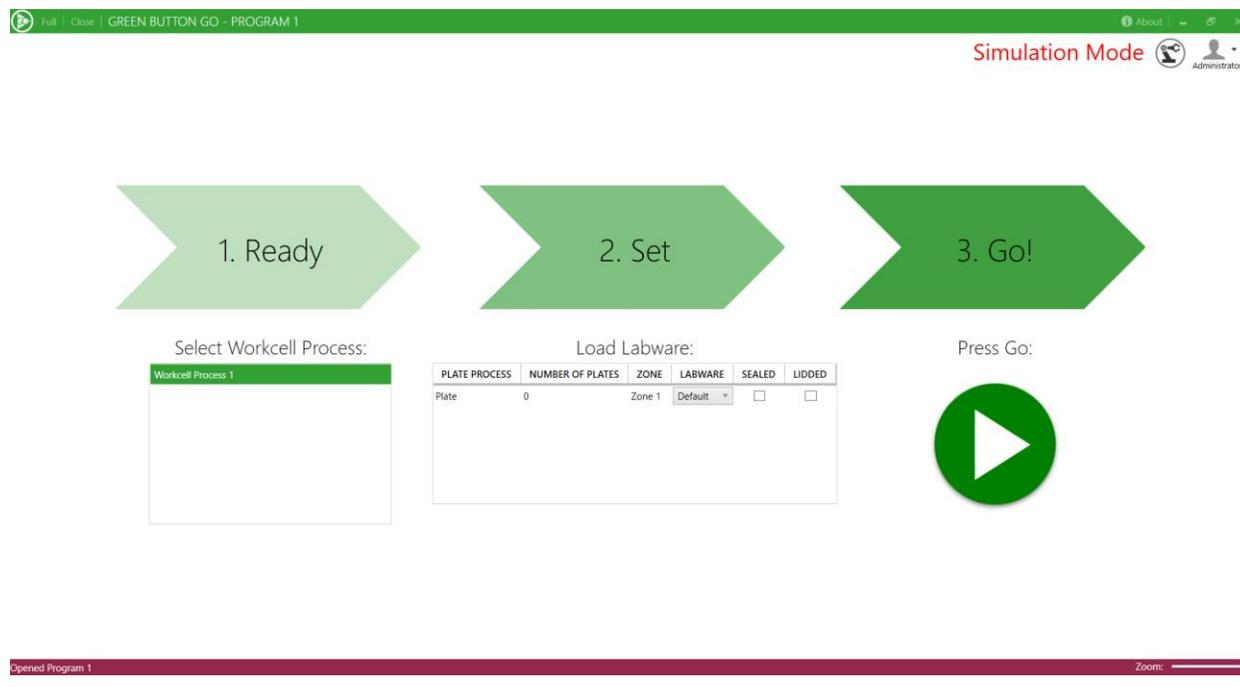

FIGURE 48. BASIC USER VIEW
- Full GUI Access: Without this, the user is restricted to the simplified basic user view (Figure 48).
If a user does not have Full GUI Access permission, then GBG will restrict that user's GUI to the basic screen in Figure 48.